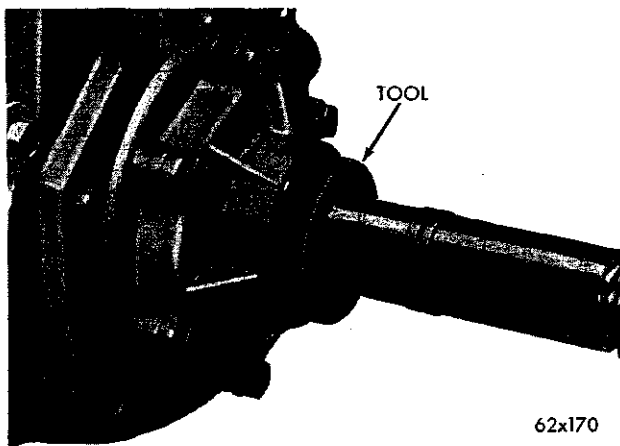

Fig. 40—Aligning Oil Pump Cover
- (3) Install the oil pump cover with the retaining bolts threaded in a few turns. Slide the aligning fixture Tool C-3864 all the way in until it bottoms against rotors (Fig. 40), then retighten the cover bolts evenly to 140 inch-pounds torque.
- (4) Install the governor and support. See Paragraph 20.
- (5) Install the extension housing, transmission flange and connect the propeller shaft.
- (6) Connect the parking lock cable.